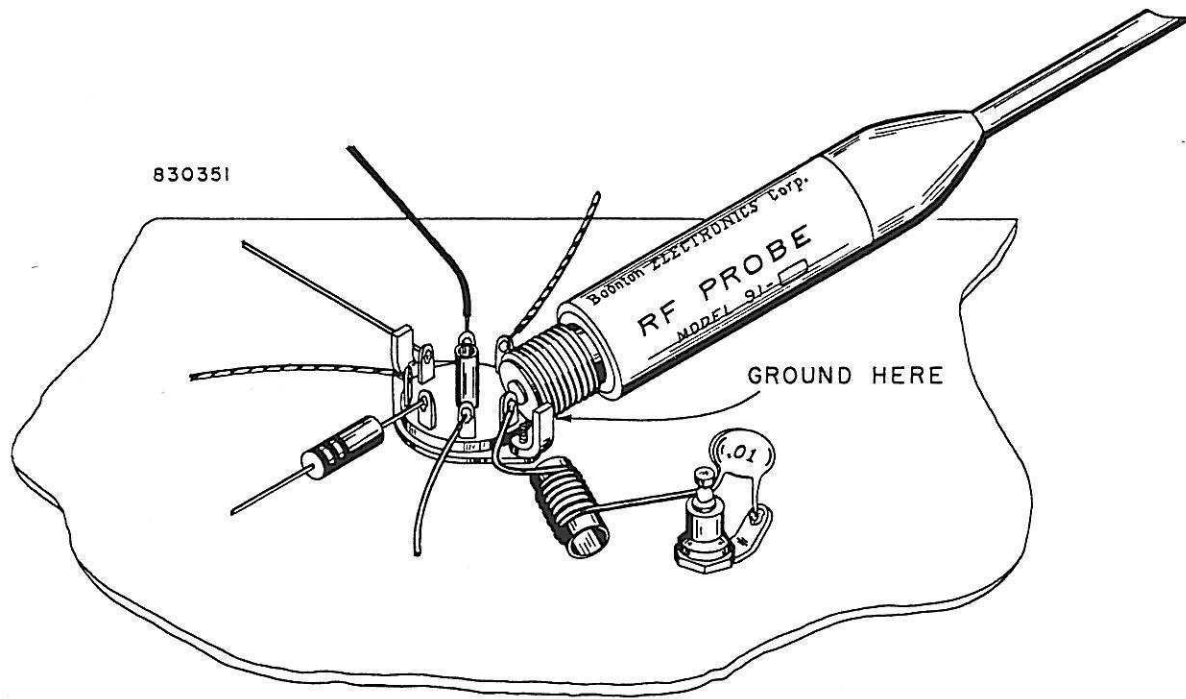

Figure 5. Method for making low-inductance connections to test signal point directly using the RF probe.
3.3.3 Connection for Measurement above 100 MHz. For frequencies above 100 MHz, the probe tip should NOT be used with the Model 92C. Connection should be made directly to the center contact of the probe with the ground connection kept as short as possible (see Figure 5).
100 MHz to 250 MHz	Probe without tip (see Figure 5) (supplied)